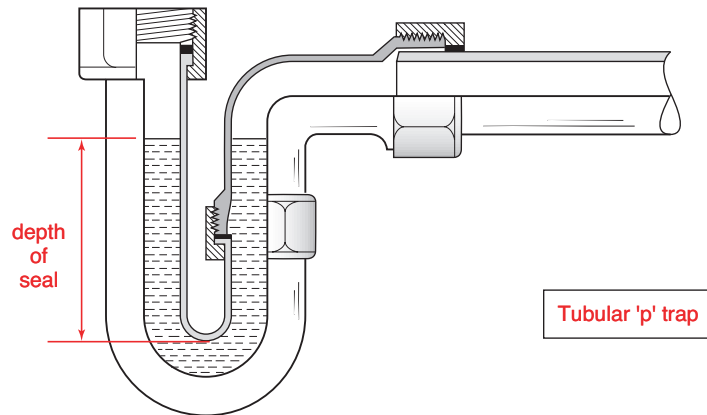

Figure 28
- (71) Figure 28 shows a trap. In the space provided give the name of the trap design and indicate the depth of water seal. (Page 309.)